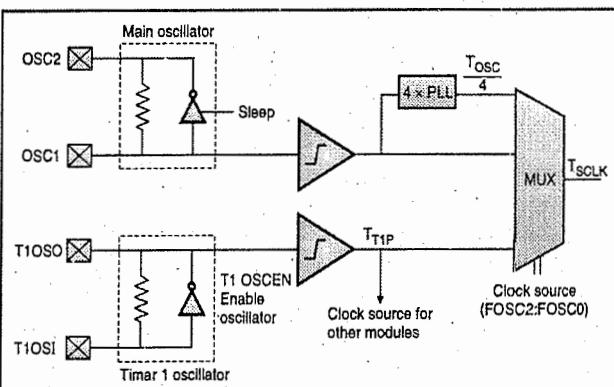

Fig. 4.13.1 : Oscillator clock sources
**OSC1** is the default oscillator. Fig. 4.13.1 shows the oscillator clock sources.
- The Timer 1 oscillator operates at 32 KHz  $T_{T1P}$  is the output got from Timer 1 oscillator as shown in Fig. 4.13.1.